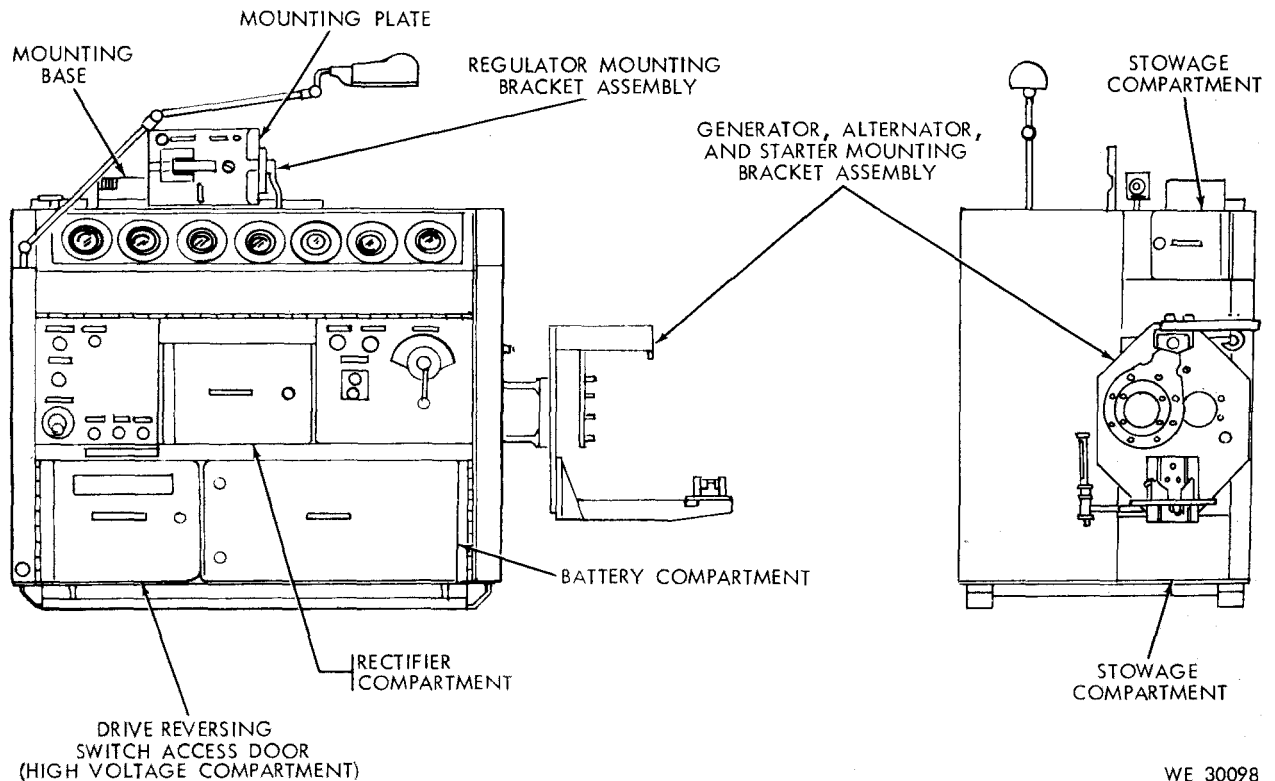
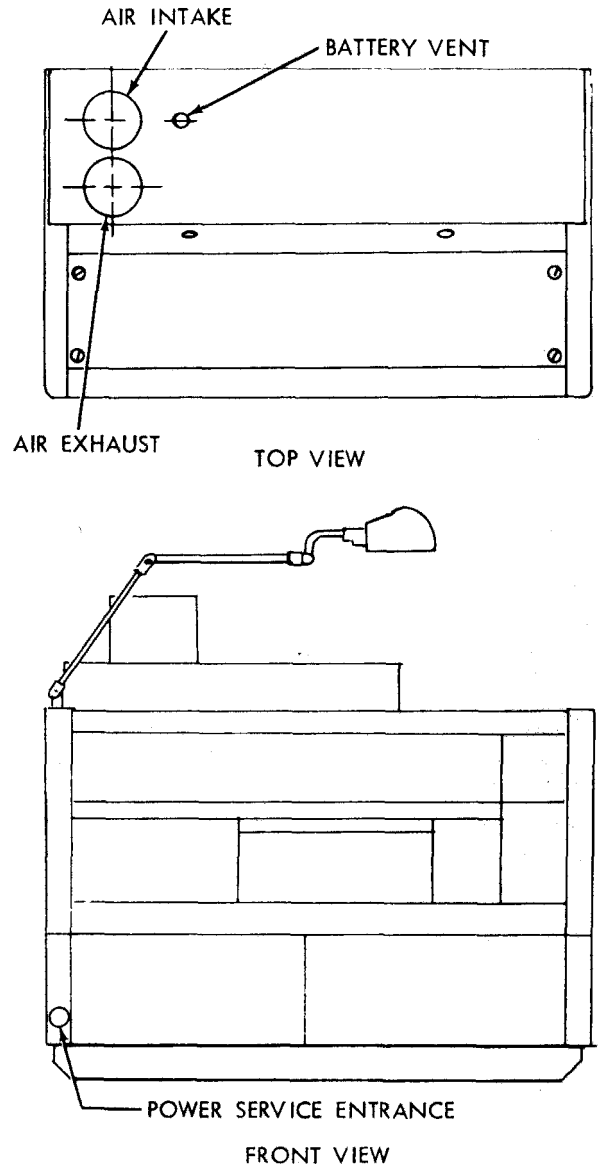
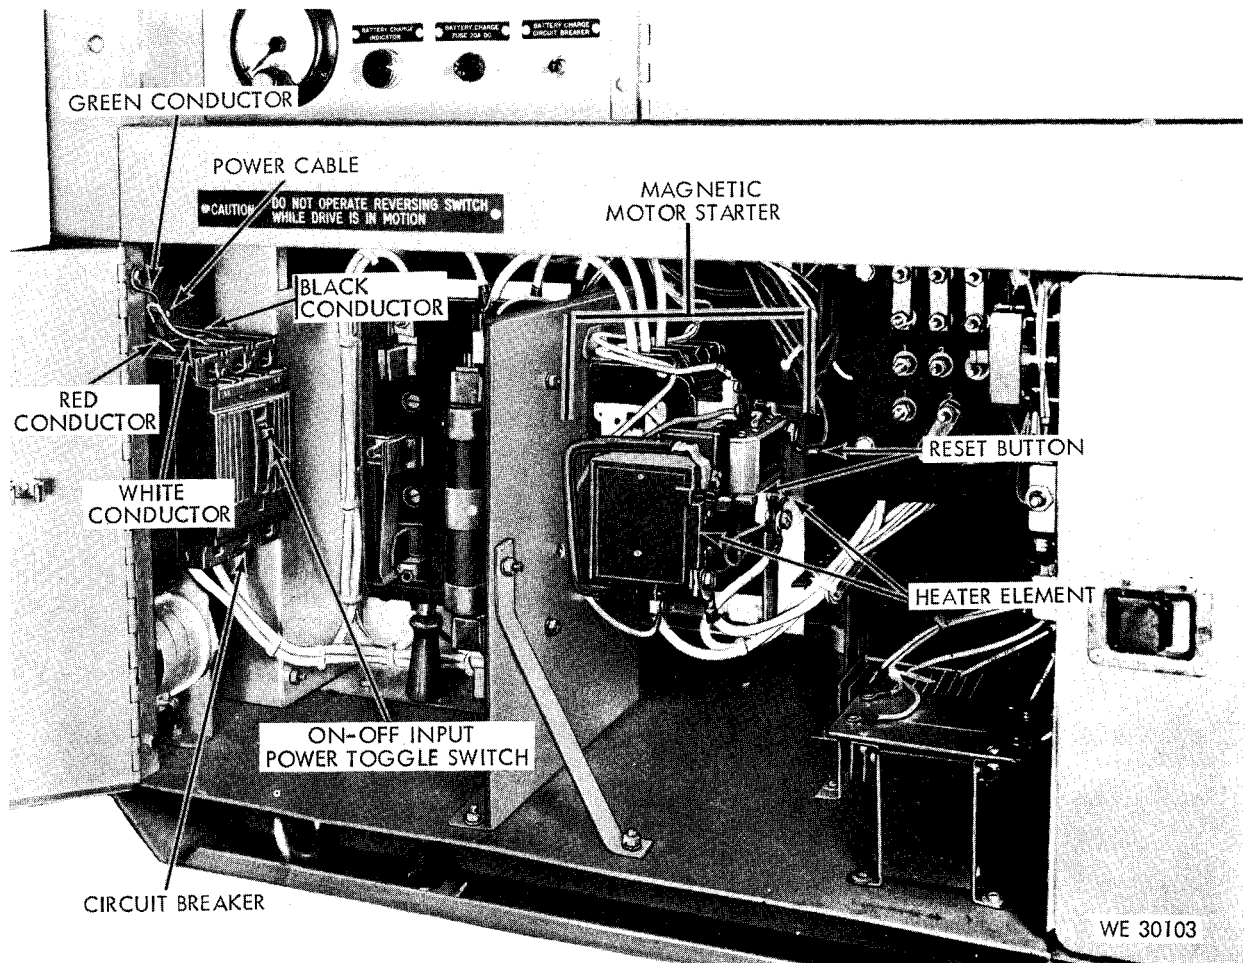

Figure 6. Location of mounting brackets, access door, and compartments.
Figure 10. Location of power service entrance, battery vent, air intake and exhaust.
Figure 11. Location of power supply connection points, circuit breaker, intake power toggle switch, and motor starter.
a. Unpacking and checking. Place the exterior container containing the test stand in an area where there is sufficient working space. Remove the nails securing the top section of the exterior container to the skid-type base under the test stand. Lift the top section off as a unit from the base. The skid-type base will be left intact until test stand is located in position during installation, *c* below. Remove the barrier material enveloping the test stand and all cushioning material, desiccant (bags), and wrappings from the test stand. Remove the boxed equipment and loose parts from the storage compartments of the test stand. Particular attention should be given to the area behind the access door of the high voltage compartment (fig. 6) as there are power leads located near or within this area. Unpack the equipment and parts from the boxes. Check the equipment and loose parts with listing in appendix II to be sure every item is present and in good condition.
- (1) *Regulator mounting bracket assembly* (fig. 6). The mounting base for the regulator mounting bracket assembly is shipped installed on the test stand. The mounting plate for the regulator mounting bracket assembly is shipped stored in one of the stowage compartments. Place the mounting plate on the mounting base and aline holes in the plate with those in the base and secure the plate with the four bolts and nuts provided.
- (2) *Generator, alternator, and starter mounting bracket assembly.*
(b) Venting (fig. 10).
(c) *Circuit breaker switch* (fig. 11). The switch on the circuit breaker, located inside the high voltage compartment (fig. 6), serves as an "ON-OFF" switch for the total input power to the test stand. Place this switch in the "ON" position prior to operating the test stand. This switch may be left in the "ON" position unless there will be requirements of maintenance to the input
1. Install the power cable (fig. 11) through the power service entrance (fig. 10). Connect three of the con-
ductor leads (red, white, black) of the power cable to the power cable connections on the circuit breaker, and ground the fourth conductor lead (green) to the test stand as shown in figure 11. Ground the test stand to a suitable external ground.
Note. Interchanging any two conductor leads (red, white, black) on the power cable connections of the circuit breaker (fig. 11), will change the rotation of the driving heads (4 and 5, fig. 7).
Note. The test stand is connected for 220-volt operation when received from the factory. If 440-volt operation is desired, disconnect the external power supply and place the switch on the circuit breaker in the "OFF" position (fig. 11). Connect the drive motor terminal board links and the transformer terminal board link in accordance with wiring diagram (fig. 13) and as shown in figure 12. Remove the number CR123F91.4B heater elements (fig. 11) and install in their place the number CR123F48.7B heater elements (fig. 65). The 100-ampere, 600-volt fuses (fig. 12) will not have to be changed inasmuch as they are used for short circuit protection only.
- (2) Inspect to see that all connections are secure (figs. 11 and 12).
Warning: Disconnect the external power supply from the test stand and place the switch on the circuit breaker (fig. 11) in the "OFF" position before any attempt is made to inspect connections, (2) above.
- (3) Check to see that the meter windows have no presence of static charge (par. 146a(3)).
- (4) Check the compartments (fig. 6) in the test stand for any items (equipment, etc.) that may interfere with the operation of the stand.
- (5) Perform the preventive-maintenance services as prescribed in tables 10 and 12.
- (6) Operate the test stand and check for proper testing operation (pars. 92 through 98). Listen for unusual noises when the varidrive assembly is operated, such as, bearing grind or excessive gear noise.